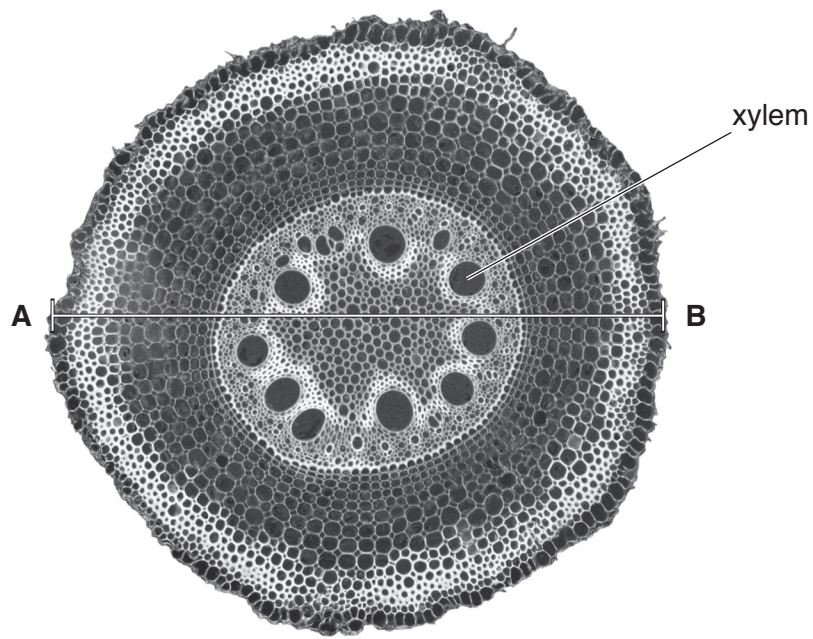
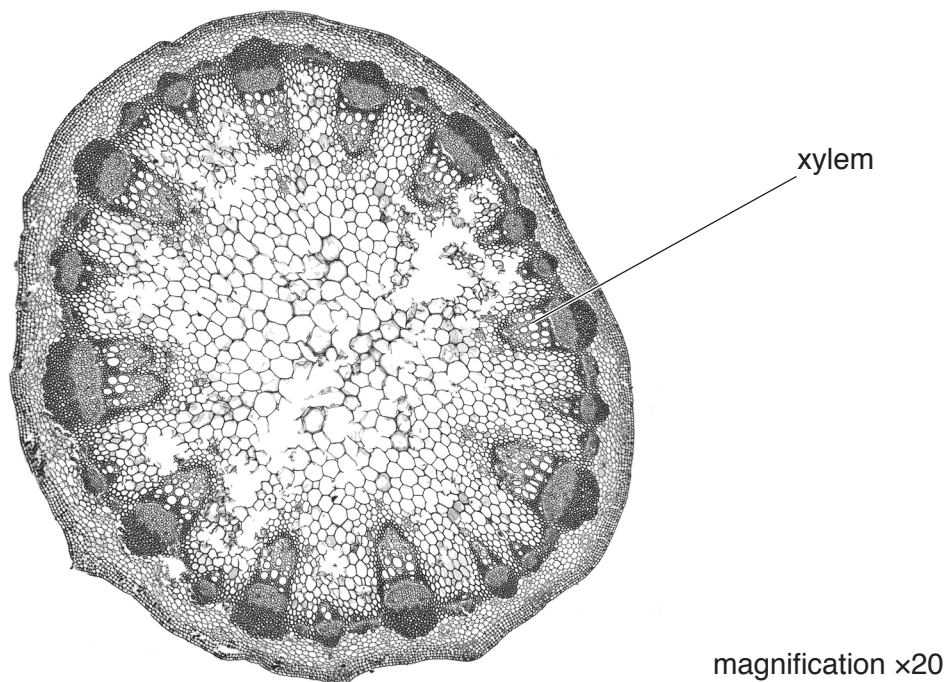

Fig. 2.2
Fig. 2.3
(c) Fig. 2.2 is a photomicrograph of a cross-section of a root.
- (i) Make a large drawing of the cross-section of the root in Fig. 2.2 to show the different areas of the root.
- (ii) Measure line **AB** on Fig. 2.2 in millimetres.
The actual diameter of the root shown in Fig. 2.2 is 2 mm.
Calculate the magnification of Fig. 2.2 using the equation.
$$\text{magnification} = \frac{\text{length of line AB on Fig. 2.2}}{\text{actual diameter of the root}}$$
- (iii) Fig. 2.3 is a photomicrograph of a cross-section of a stem.
State **two** differences between the root in Fig. 2.2 and the stem in Fig. 2.3.